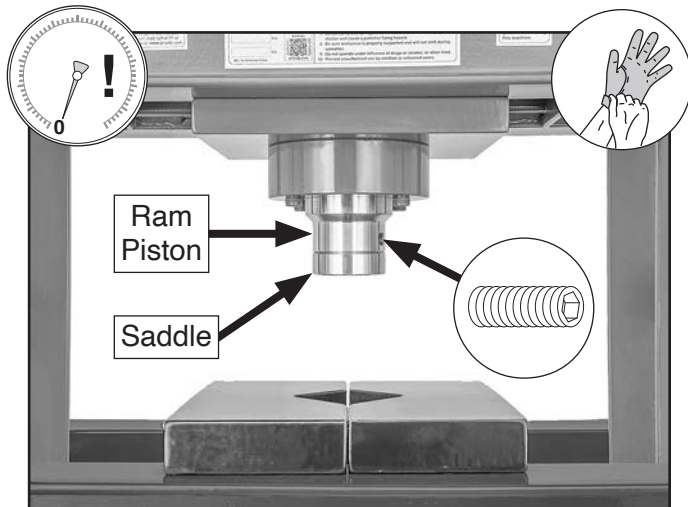

Figure 21. Location of hydraulic ram saddle components.
2. Grasp hydraulic ram saddle with one hand and loosen set screw on ram piston (see **Figure 21**), then remove saddle.
3. Install replacement saddle flush against ram piston, then tighten set screw to secure (see **Figure 21**).